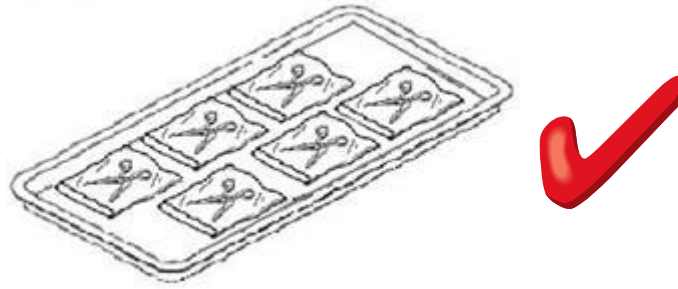

Figure 20
**Warning:** If implements are packed with sterilizing pouches, please make sure not to pile them up. Follow Figure 20 for correct placement and do not overlap pouches like